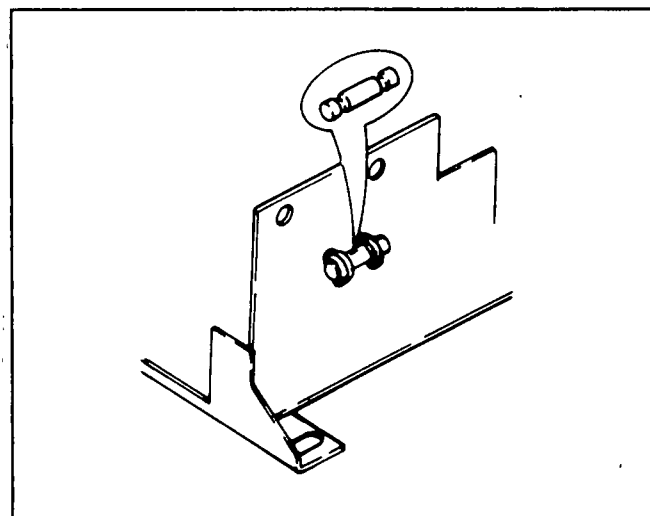

Figure 11. Spring Retaining Pin Removal
1. See Figure 11. Remove the spring retaining pin.